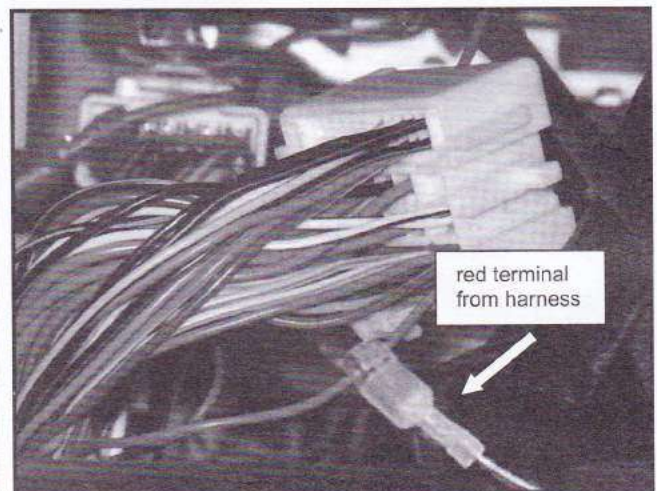

figure 4
6. Attach the loose Green/Orange wire (with red terminal) from the alarm harness to the installed purple wire-tap. Ensure the terminal is pushed into the centre of the wire tap (refer to figure 4).